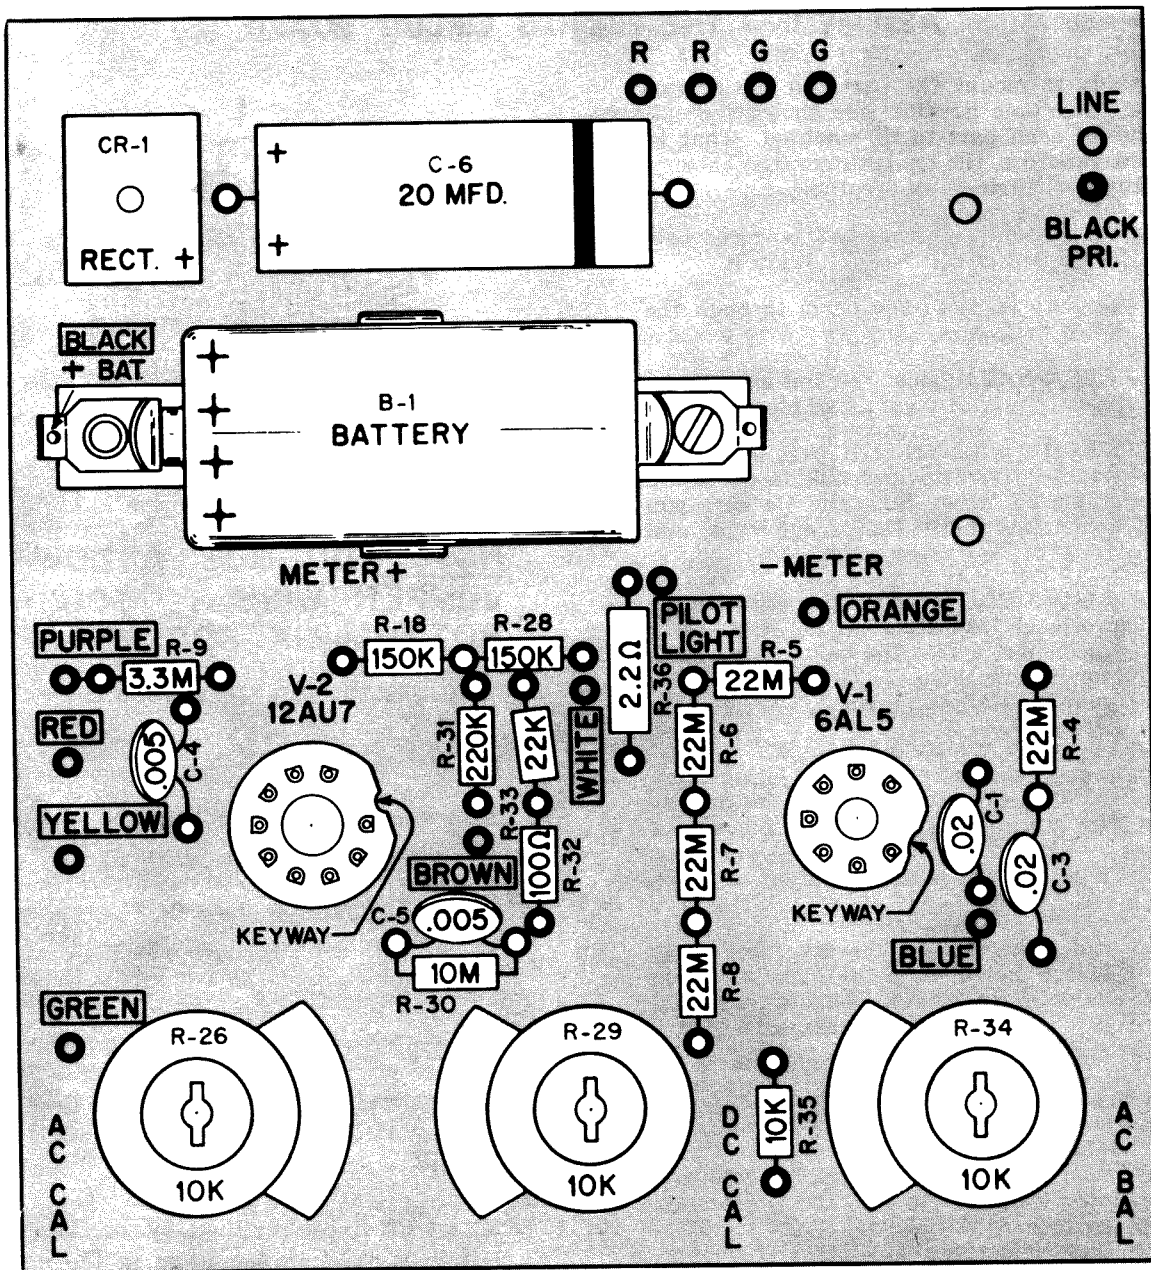

FIGURE 11. MOUNTING THE PARTS ON THE PRINTED CIRCUIT BOARD
1. INSERT the wire leads of the parts through the holes as shown in Figure 11.
SEE FIGURE 11.
SEE FIGURES 11 AND 12.
- () Mount R-9, 3.3 Megohm resistor (orange, orange, green) as shown in Figure 11.